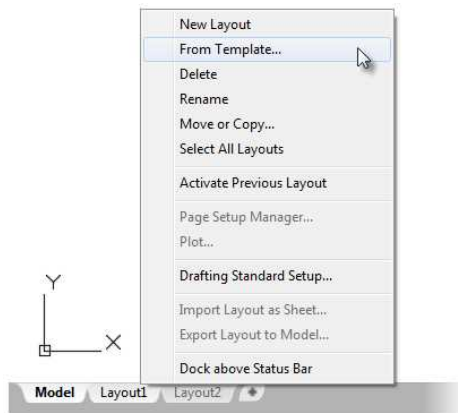

FIGURE 14.17: Selecting the From Template option
2. Right-click the Layout1 layout tab, and choose From Template within the context menu that opens (see Figure 14.17).